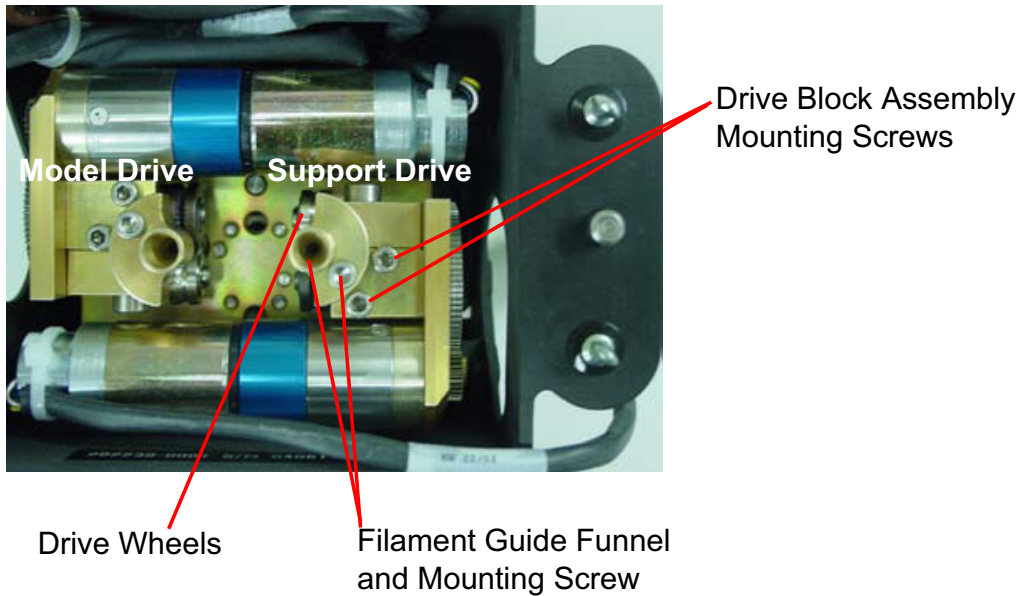

Figure 22: Removing the drive block assemblies to check for buildup
- B. Remove the support drive block first. Use a 7/64" Allen wrench to remove the two screws securing the motor assembly as shown in Figure 22.
Use the 7/64" Allen wrench provided in the Startup Kit to remove the filament-guide mounting screw as shown in Figure 22.